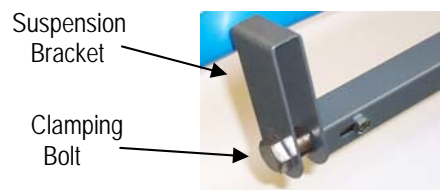

Figure 4: Suspension Bracket and Clamping Bolt Assembly
- 2) Slacken clamping bolts (See Figure 4) at each end of the TS air curtain. Slide both the unit suspension brackets onto the arms of the mounting brackets and push the unit back as far as possible. Ensure the air discharge nozzle does not interfere with the door opening and the air curtain is fitted as close to the slider door as possible. Tighten the clamping bolts.